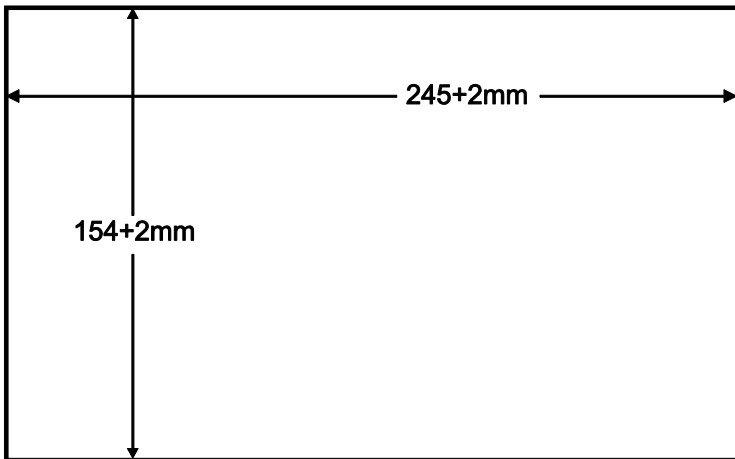

Figure 9: Cut out Dimensions
3. Following the **inside** edge of the template, cut a hole in the table surface with a sabre or keyhole saw according to the dimensions shown in Figure 9 (not to scale).